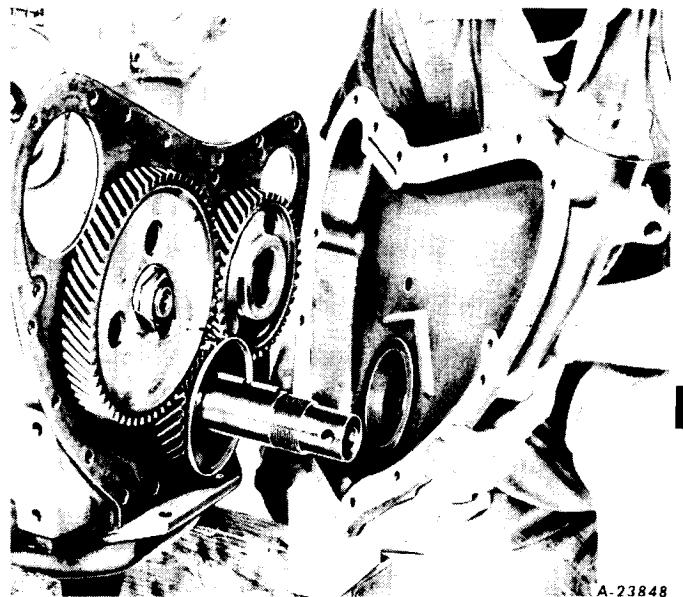

Fig. 3 - Removing the front cover (175 and 281 Series).
7. Remove the cap screws and lock washers from the front cover and remove (Fig. 3).